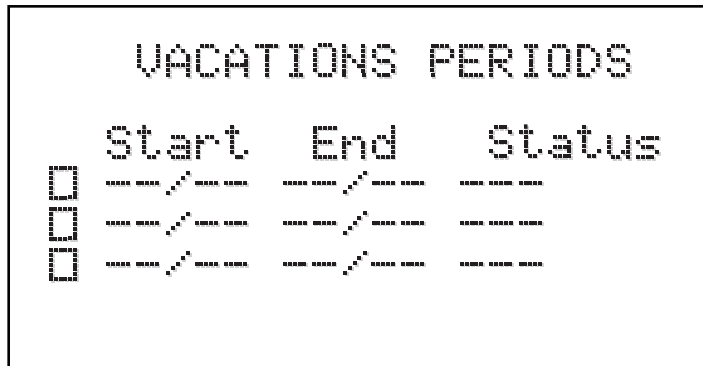

Figure 16
4.3.3.3 Vacation Periods (Figure 16)